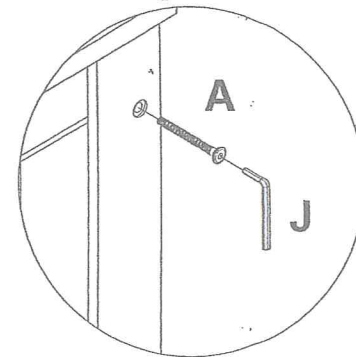

Figure 6
2. Insert JCBC BOLTS (C) into both SIDERAILS, tighten it up by using an ALLEN KEY (J).
3. Insert JCBC BOLTS (A) into holes on HEADBOARDS as seen on Figure 6, tighten it up by using an ALLEN KEY (J).